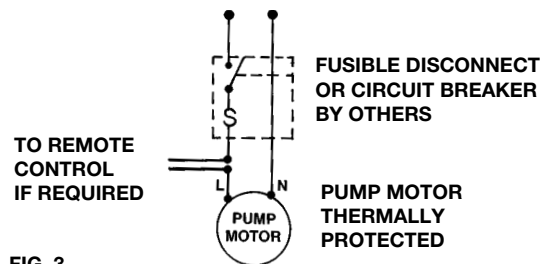

FIG. 3
- C. Using a minimum size 14 AWG copper electrical wire (refer to your local code for wiring restrictions), wire the motor to a single phase power source as listed on the pump nameplate. See Fig. 3.